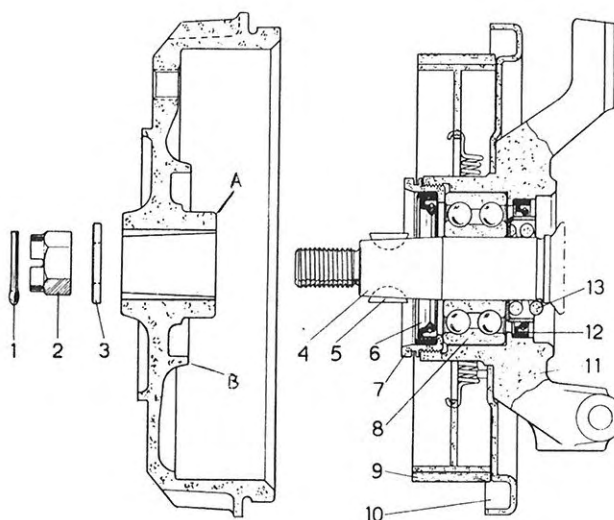
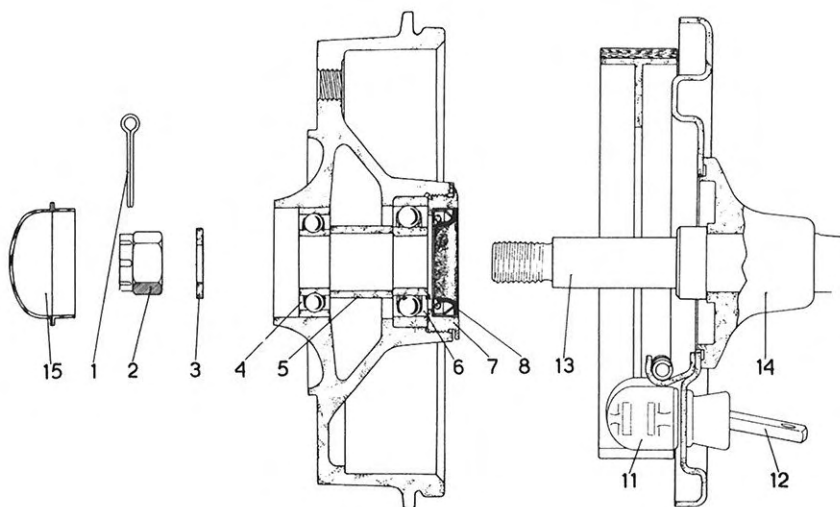

Fig. 17. Front wheel hub
Fig. 18. Rear wheel hub
3. Remove the dust cap 15, rear, Fig. 18, split pin 1, Fig. 17 and 18, and crown nut 2.
The front wheel hub is mounted on the outer drive shaft 4, Fig. 17, by means of a taper and two woodruff keys 5. The hub is secured by the crown nut 2 and split pin 1.
The rear wheel hub with ball bearings is carried on the rear axle shaft 13, see Fig. 18. The ball bearings and shaft seal are removed together with the hub when it is removed.
1. Unscrew the nut 7, Fig. 18, in which the shaft seal is placed, but first open its locking with a drift. To screw out the nut use a hook wrench, tool Saab 92-19.
Clean all components thoroughly. Replace any parts that are worn or damaged and pay particular attention to the shaft seal A, Fig. 18.
2. Press in the larger bearing 6, Fig. 18, using tool Saab 92-33, see Chapter 7.
The wheel hub must be thoroughly cleaned. Make sure that the shaft seal 6, Fig. 17, is clean and undamaged.
1. Grease the shaft seal tongue and the seal surface A, Fig. 17, before assembling, see Chapter 15.
1. The axle shaft and the sliding surface A, Fig. 18, must be thoroughly cleaned and undamaged.